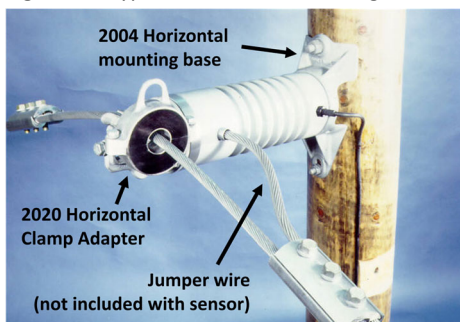
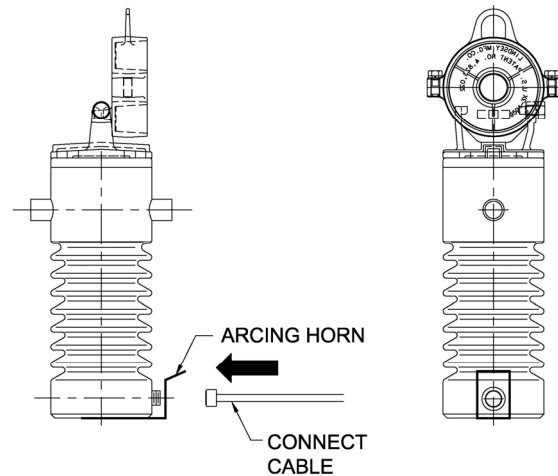

Figure 4: Clamp-top style sensor showing proper orientation of arcing bracket
Figure 5: Arcing bracket (arcng horn) supplied with sensor
Included with the sensor is an arcing bracket (also known as an arcing horn), P/N 9609-UNIV (see Figure 5) which will be installed under the sensor per Figure 4.
- Place the provided arcing bracket (see Figure 5) underneath the sensor and mount both on the crossarm or other mounting surface. The connector socket on the sensor must be aligned with the hole in the arcing bracket. See Figure 4.